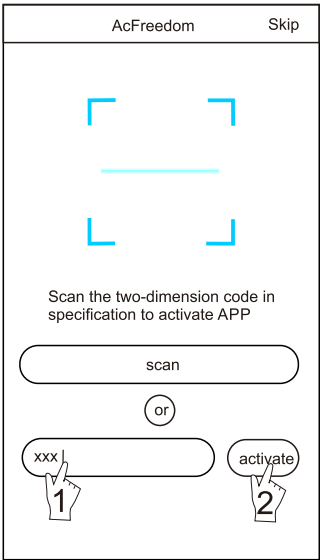

figure 4
2. By entering the activation code (6364d) in the area prompted by “enter activation code” (see Fig.4)